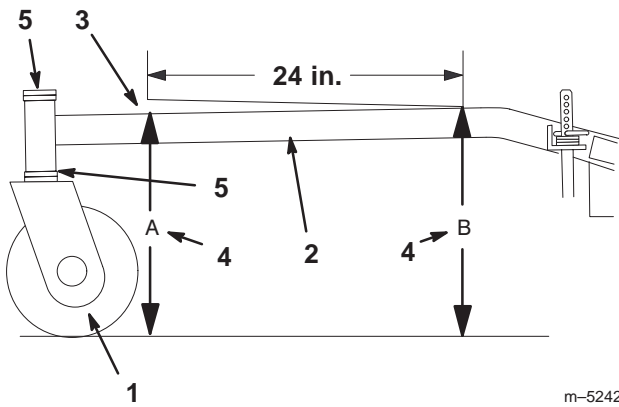

Figure 47
- Measure out 24 inches on the carrier frame (Fig. 47).
- Measure carrier frame height at location "A" (Fig. 47).
- Measure carrier frame height at location "B" (Fig. 47).
- The height at location "A" must be a 1/4-3/8 in. lower than location "B" (Fig. 47).
- If the carrier frame is not correct, move caster spacers to make it a 1/4-3/8 in. pitch (Fig. 47). Move spacers from top or bottom to make the correct pitch.